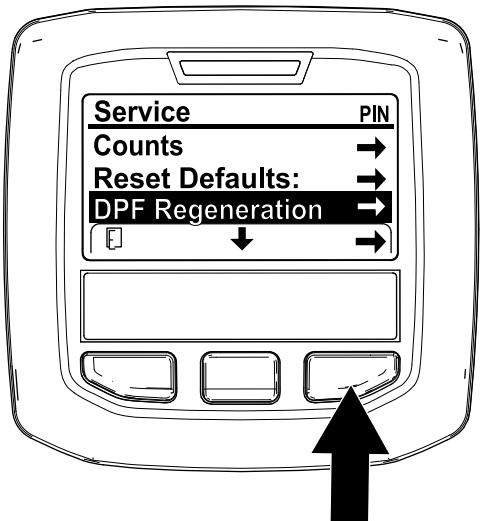

Figure 28
- Access the Service menu, press the center button to scroll down to the DPF REGENERATION option (Figure 28).
- Press the right button to select the DPF Regeneration entry (Figure 28).